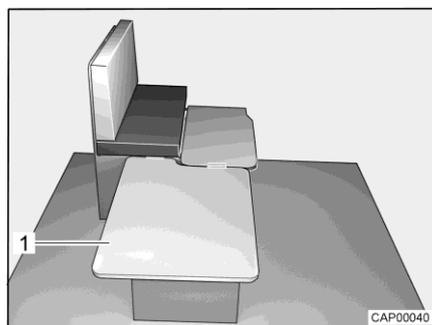

Fig. 76 During conversion
- Hook removable board (Fig. 76,1) in on the side of the bench and place it on the table.